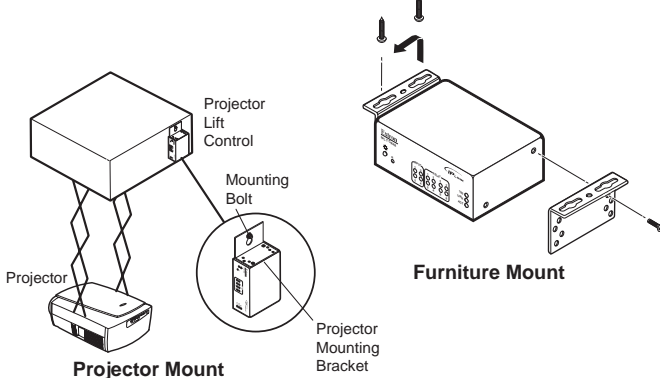

Figure 2-3 — Furniture and projector mounting for the IPL T CR48
1. Attach the mounting brackets to the interface with the machine screws provided (figure 2-3).